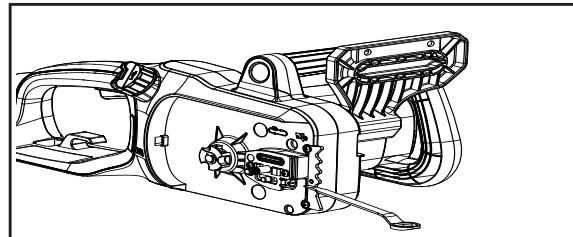
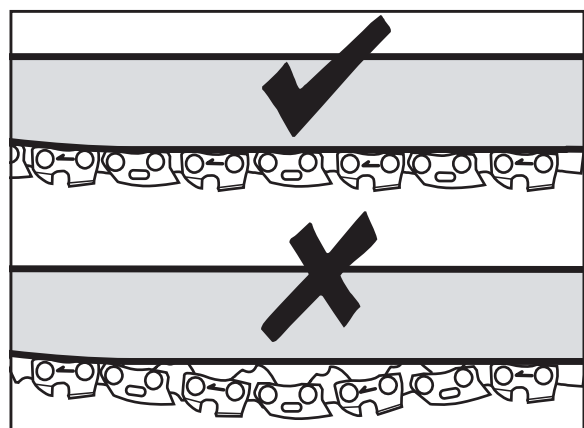

Fig. 2
Fig. 3
3. To adjust the saw chain tension, rotate the tension screw (Fig. 2). Rotating the tension screw upwards increases the tension while rotating it downwards decreases tension. A properly tensioned chain should have no sag (Fig. 3) and should only be able to be pulled 1/8 inch (3 mm) away from the chain bar of the saw.